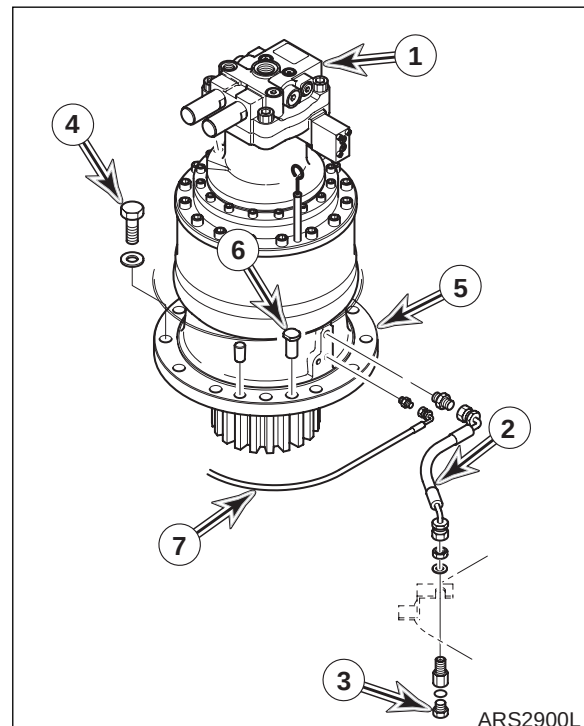

Figure 9
7. Tag and disconnect hoses from swing motor (1, Figure 9). Plug and cap hoses and ports to prevent contamination from entering hydraulic system or component.
8. Remove drain plug (3, Figure 9) from frame and drain oil from reduction gearbox (5, Figure 9).
9. Disconnect and grease lubrication line (7, Figure 9) from reduction gearbox (5).
10. Remove twelve bolts and washers (4, Figure 9) holding swing reduction gearbox (5) to frame.
11. Using a suitable lifting device, sling swing motor (1, Figure 9) and remove swing motor and reduction gearbox (5) as an assembly from unit.
NOTE: There are two alignment pins (6, Figure 9), located on reduction gearbox flange.